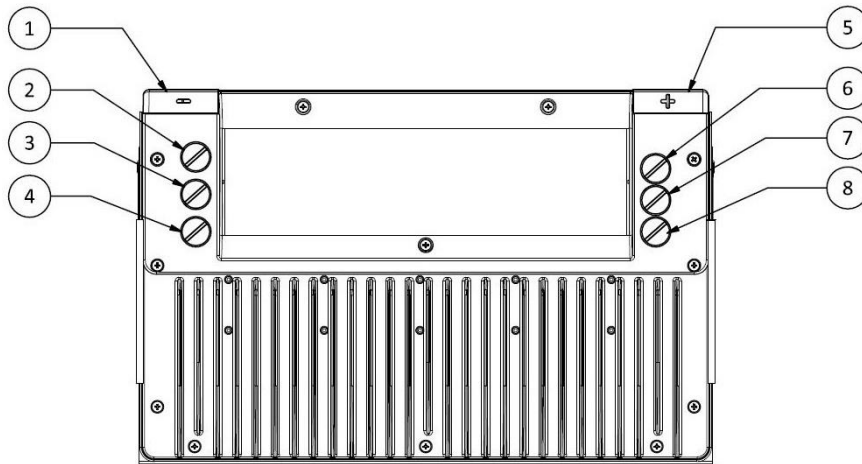

Figure 6
The battery power terminals and interface ports are located in the front panel of the battery as indicated in the fig.6. Some connections (n° 2, 3, 4, 6, 7, 8 of the fig.6) are protected by six plastic screw plugs. All the connections of the 48TL200 battery are described in the Table E.
- 3) Connect the negative DC power supply terminal to the negative terminal of the battery (1, fig.6).
- 4) Connect the positive DC power supply terminal to the positive terminal of the battery (5, fig.6).
The following Table shows the pin-out of the output com port (ref. 6, fig.6)
The battery has a Form C alarm relay; it has Open to Alarm (OTA) and Closed to Alarm (CTA) contact with a common connection between them (fig.10a). When the battery issues an alarm, the dry contact is de-activated. Dry contact terminals are located in the (output) com port as indicated in the Table F. A configuration jumper is located behind the plastic screw plug (ref. 8 fig.6) as indicated in the fig 10b